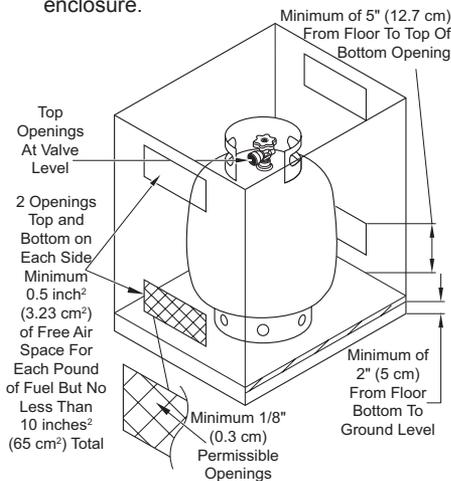

Figure 9 - Propane/LP Tank Enclosure
- An enclosure must have either one open side or at least four opposing vent openings, top and bottom, which meet minimum requirements for size and location (see Figure 9).